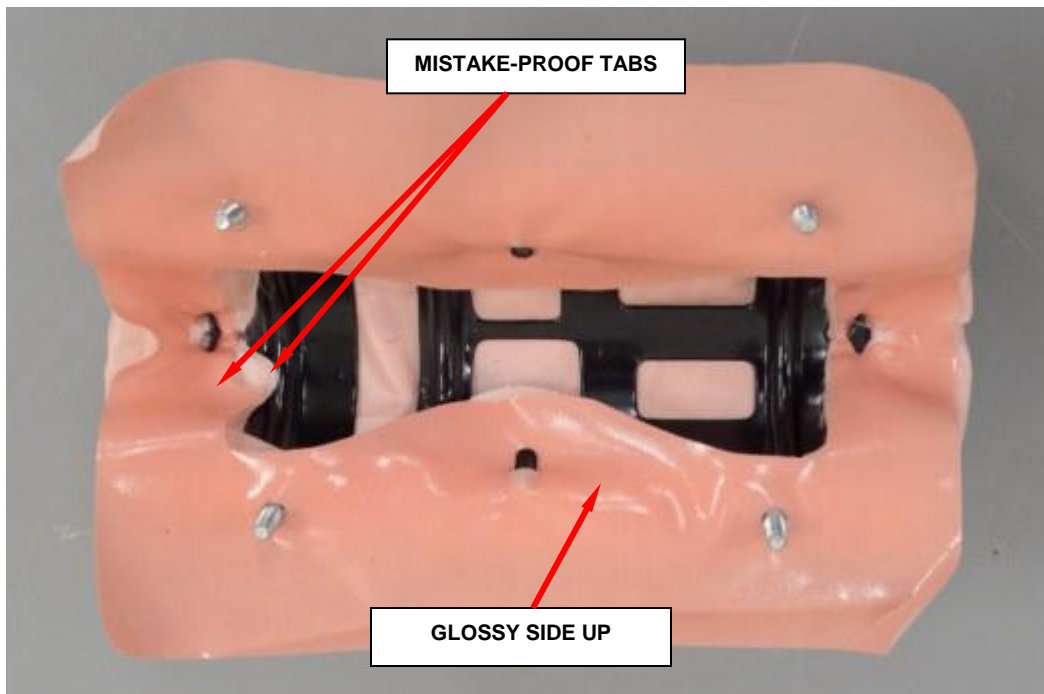

Figure 110 – Fabric Gasket to Cushion (Glossy Side Up)
- i. Place the fabric gasket, glossy side up, onto cushion. Mistake-proof tab should be aligned to the tab on the cushion (Figure 110).